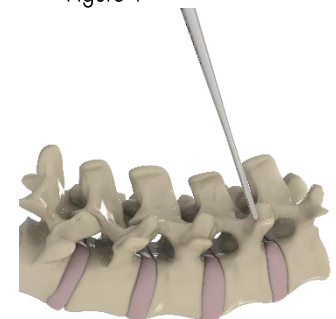

Figure 2
- b. Use a Straight (39-SP-0007), Curved (39-SP-0003), or Duckbill (39-SP-0005) Probe to open the pedicle canal (Figure 2). A pathway and trajectory through the pedicle can be established with a Probe allowing the instrument to follow the path of least resistance. The Probe should contact bone at all times. If resistance is felt while creating a pathway through the pedicle, trajectory should be re-evaluated. Etching on the Probe will indicate the depth of the Probe within the canal.